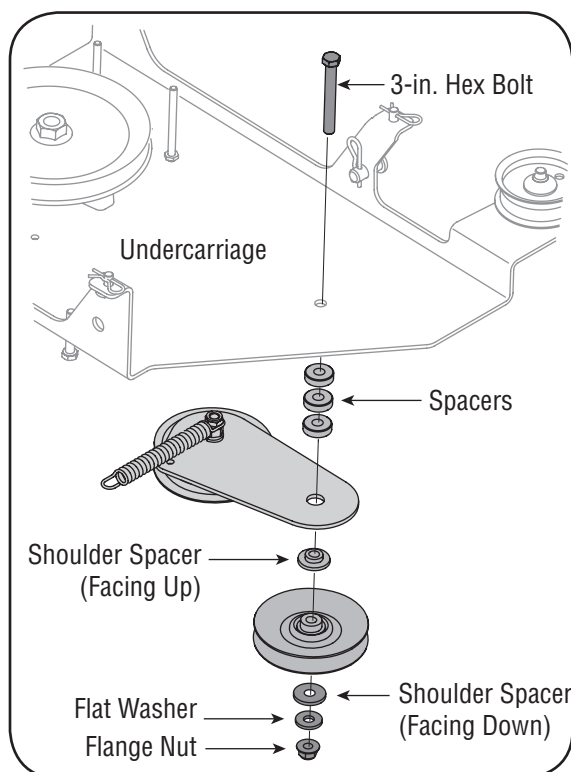

Figure 6
3. Reassemble with the 3-inch hex bolt on top of the undercarriage and the flange nut securing the pulley from the bottom. See Figure 6.
IMPORTANT: Components must be reassembled in the exact order illustrated in Figure 6.